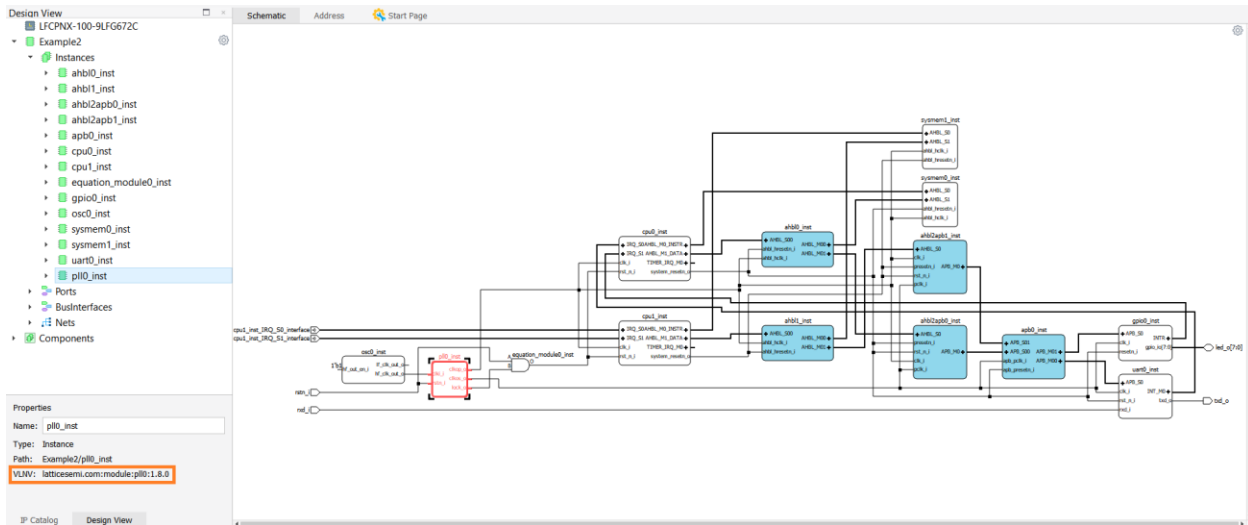
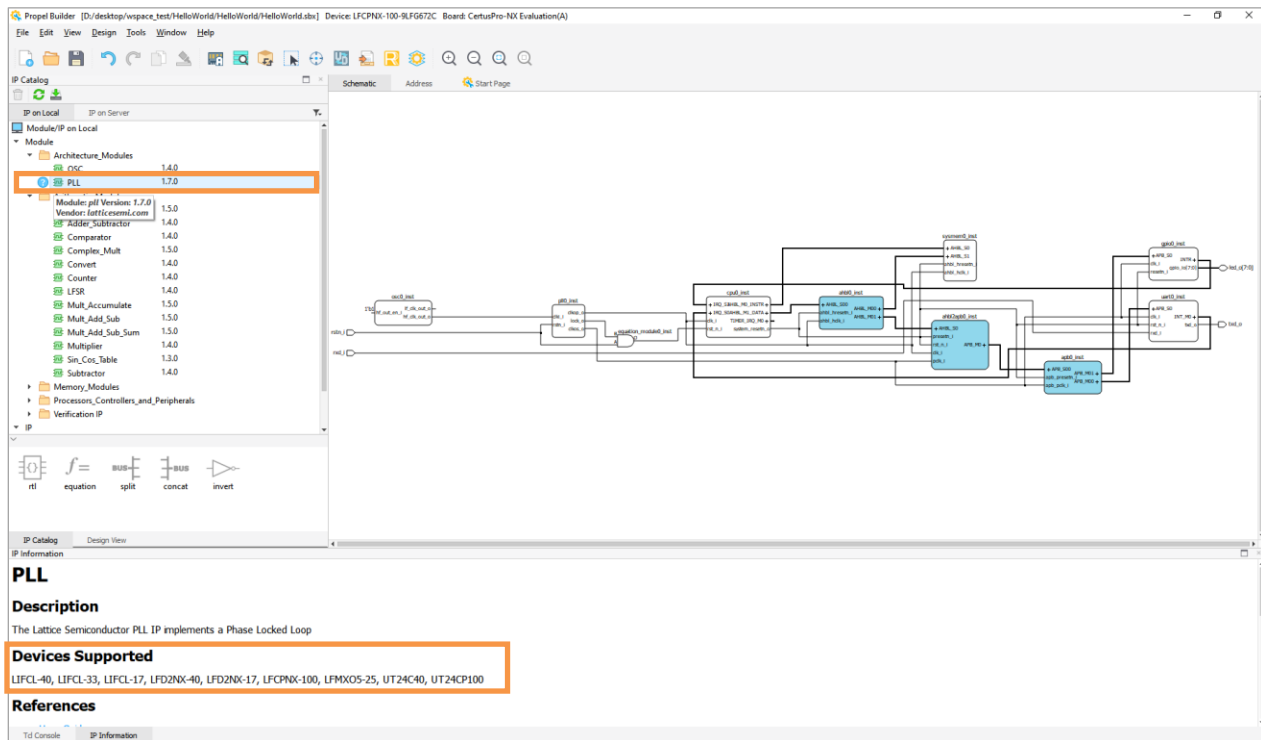

Figure 2.177. Check IP Name in Design View
Figure 2.178. Check Device Supported in IP Information
- Click on an IP instance in **Schematic view**. The **Design View** shows the corresponding information of this IP. Check VLNV for this IP name (Figure 2.177). Go to **IP Catalog** and click on  before this IP to show the **IP Information**. In the **Device Supported** area, all the devices this IP supports are listed (Figure 2.178). Make sure